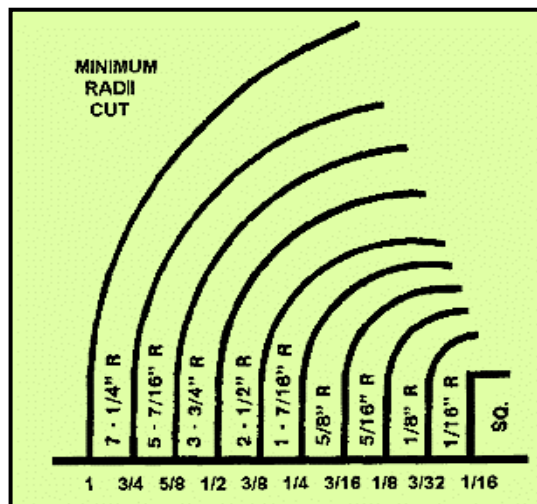

Figure 6-6. Bandsaw selection for various radii.
Figure 6-6 shows saw band selection for various radii. They are supplied in rolls of 50 to 500 feet for use on machines that have butt welders for forming their own blade bands. Bandsaw blades are also supplied in continuous welded bands for machines having no provisions for welding.
**Selection of Bandsaw Blades:** Select bandsaw blades according to the type of material to be cut, the thickness of the material to be cut, and the sawing operation to be performed. Always use the widest and thickest saw band possible. However, consider the curvature of the cut, since wide saw blades cannot cut sharp curves. Figure 6-6 shows saw band selection for various radii. For general sawing, use the raker set pattern. The wave set pattern is used where thin work sections are encountered during the cut, such as tubing, angles, and channels.